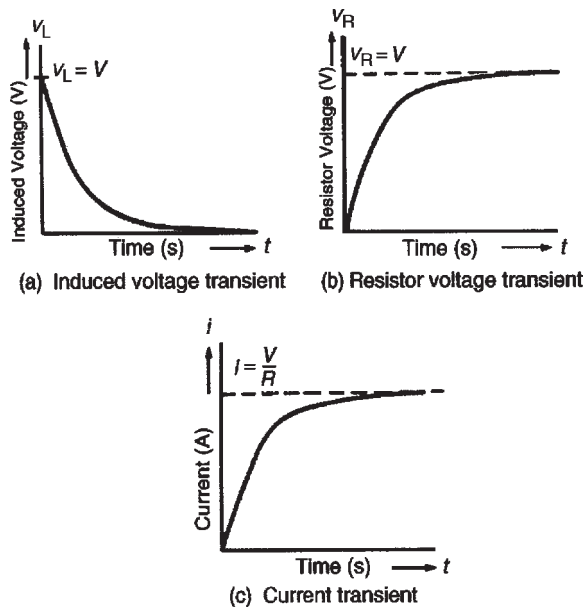

Figure 20.11
- (g) Curves showing the changes in v_L , v_R and i with time are shown in Fig. 20.11 and indicate that v_L is a maximum value initially (i.e. equal to V), decaying exponentially to zero, whereas v_R and i grow exponentially from zero to their steady-state values of V and $I = V/R$, respectively.
Each of the transient curves shown in Fig. 20.11 have mathematical equations, and these are: